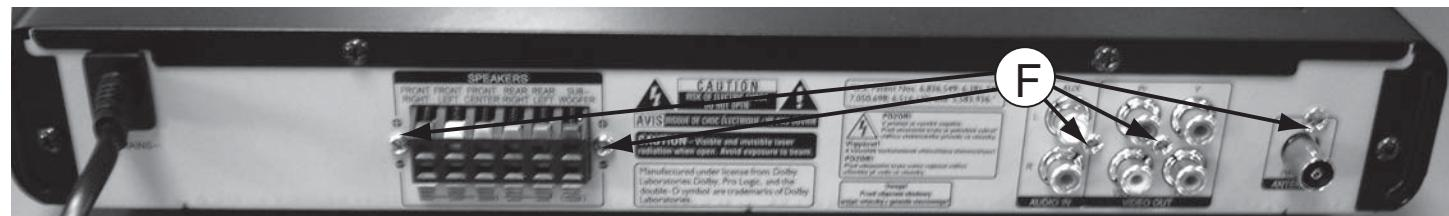

Figure 9
2) Loosen 5 screws "F" at the back panel as shown in figure 9.